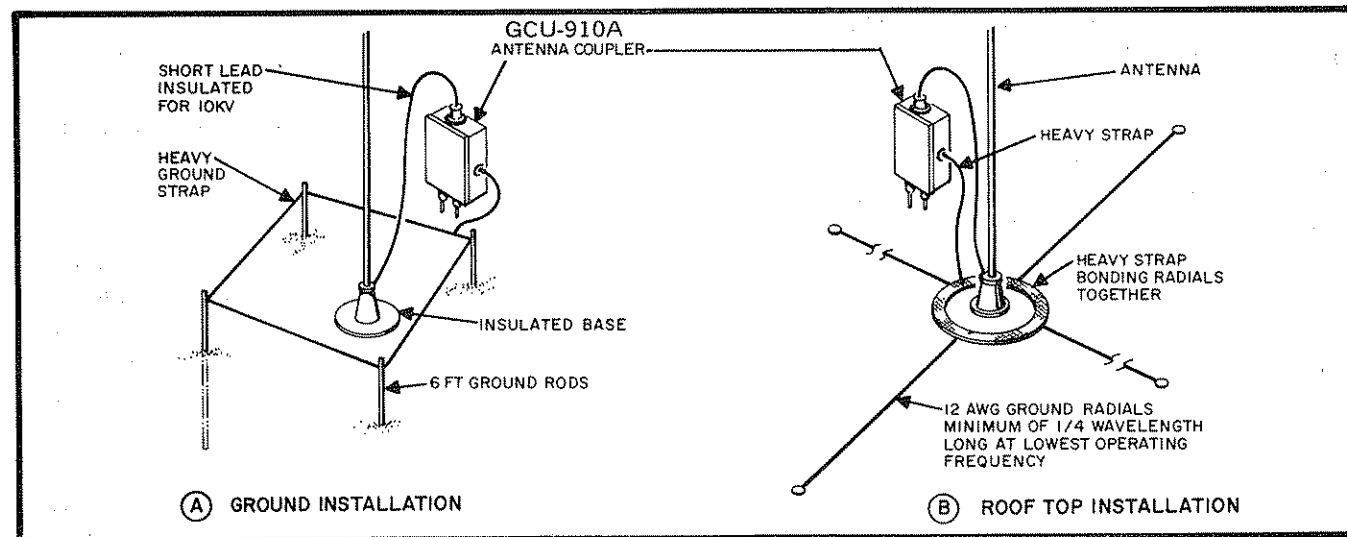

Figure 2.4 The Whip Antenna
3. When using whip antennas, the ground system actually forms part of the radiating system. Where space permits (such as in a base station installation) a good ground plane or radial system should be installed at the base of the antenna. (See Figure 2.4) AN INADEQUATE GROUND SYSTEM IS MOST OFTEN RESPONSIBLE FOR DISAPPOINTING PERFORMANCE WHEN USING A WHIP ANTENNA.
Whips and long wires are popular non resonant antennas. The whip antenna (illustrated in Figure 2.4) is often used in mobile, marine, portable or semi portable installations because it is rugged and self supporting. The antenna impedance changes with the operating frequency and therefore the GCU-910A antenna coupler must be used to match the antenna to the transceiver. Best radiation efficiency will be obtained if the antenna is at least $1/8$ wavelength long at the lowest operating frequency; however, this requirement does not result in a practical size antenna for low frequency operation. Thirty-five foot whip antennas offer a good compromise between practical height and good electrical performance at low frequencies. The GCU-910A antenna coupler will match antennas as short as 9 feet, however the use of an antenna of this short length is not recommended due to the poor radiation efficiency particularly at frequencies below 10 MHz. The whip's performance is also greatly influenced by its ground system. For base station installations, a minimum of four six foot long ground rods should be driven into the ground symmetrically placed around the antenna base. The rods should be bonded together with heavy strap and then connected to the antenna coupler ground by another short heavy strap. If the antenna is mounted on the roof of a building, where a short ground lead to the coupler cannot be obtained, a minimum of 4 symmetrically placed ground radials should be installed at the base of the antenna, bonded together, and connected to the antenna coupler ground post. The radials should be made of number 12 gauge wire or larger and should be at least $1/4$ wave long at the lowest operating frequency. The whip's radiation pattern is omni-directional.